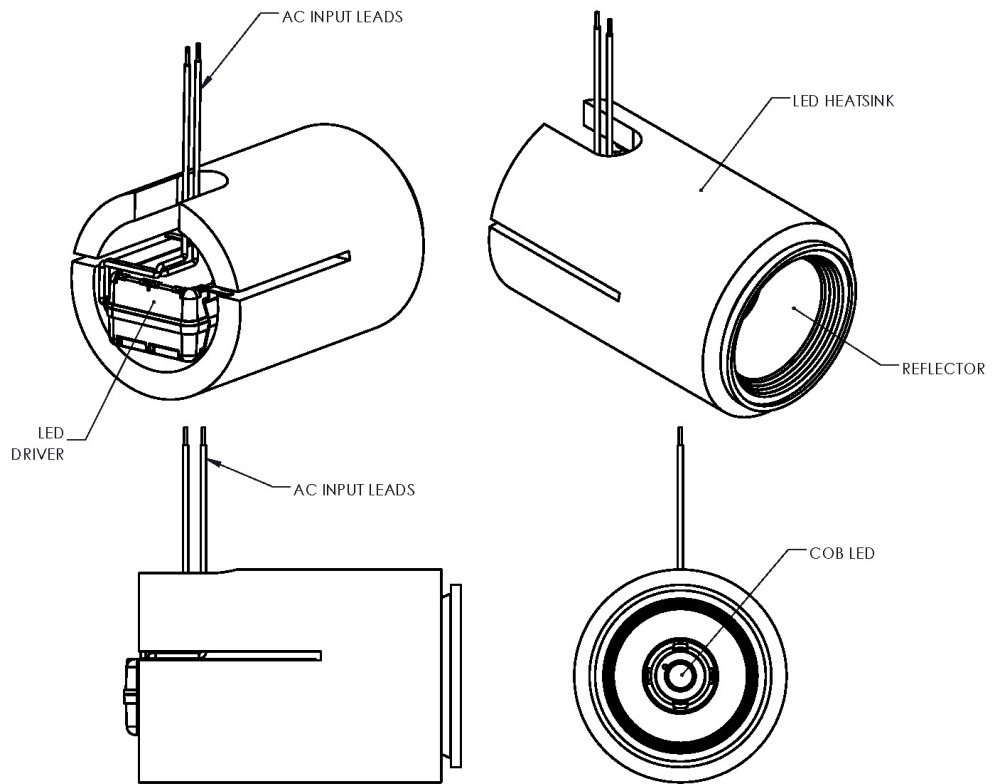

Figure 3 - EX99-LED Assembly
4.5 With the wire bundle carefully packaged and secured to the driver using the recommended wire tie, carefully place back into the LED heatsink. *See figure 3 for illustration.*